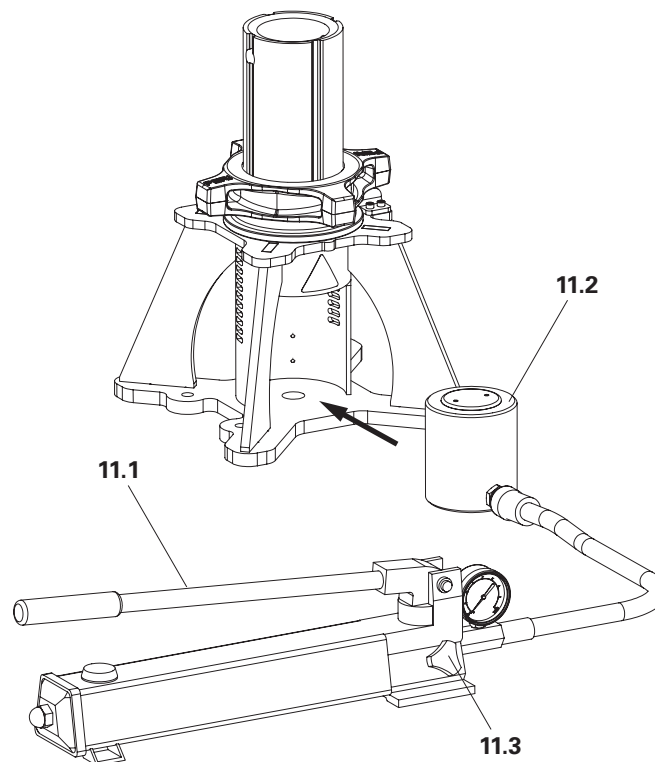

Fig. A5.05
- The pump valve (11.3) is closed. (Fig. A5.05)